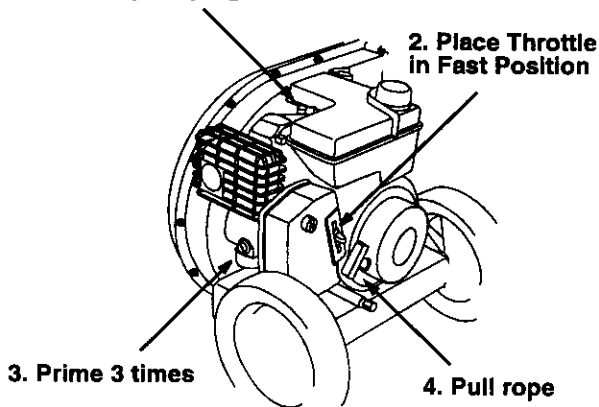

Figure 12
- Attach spark plug wire and rubber boot to spark plug. See figure 12.
- Place the throttle control lever in FAST position (UP).
- Pull rope with a rapid full arm stroke. Let rope return to starter slowly. See figure 12.